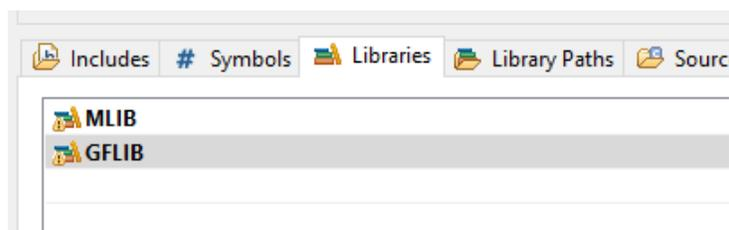

Figure 1-11. Libraries
9. After adding the library paths, add the library files. Click the Libraries tab. See Figure 1-11.
14. Click OK, and you will see the libraries added in the list. See Figure 1-11.